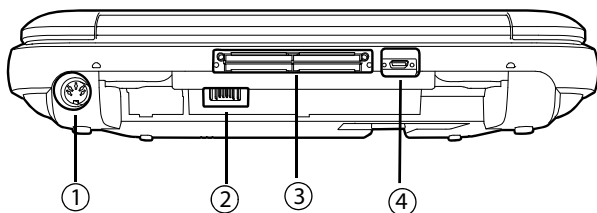

Figure 2-2 Back of the SonoSite Edge II Ultrasound System
- 1 Connect the DC power cable from the power supply to the connector on the system. Refer to Figure 2-2 on page 2-5.